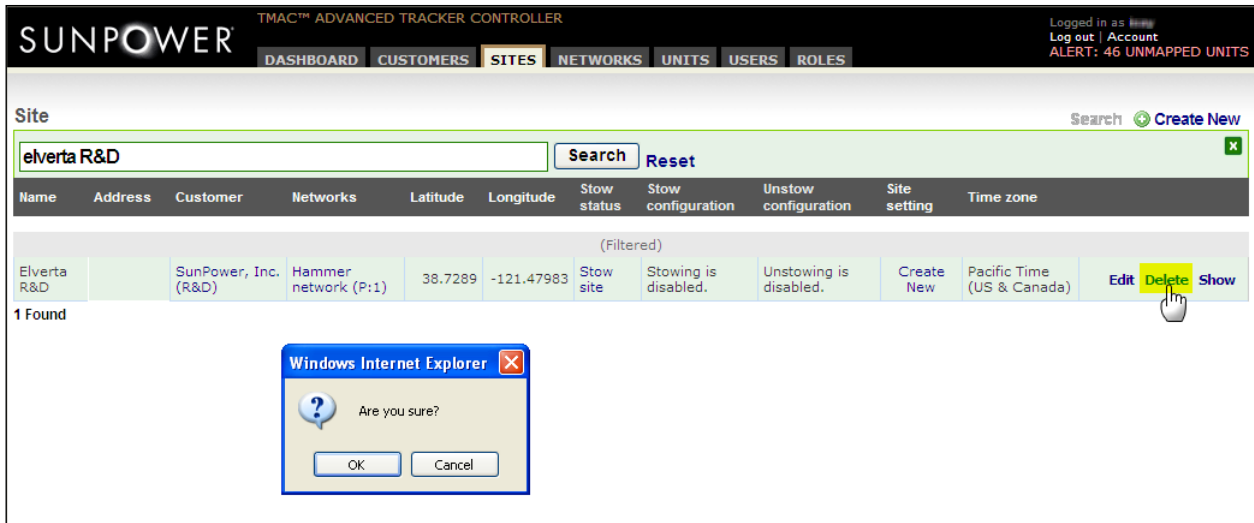

Fig. B67
- Click *OK* in the confirmation window (Fig. B67).